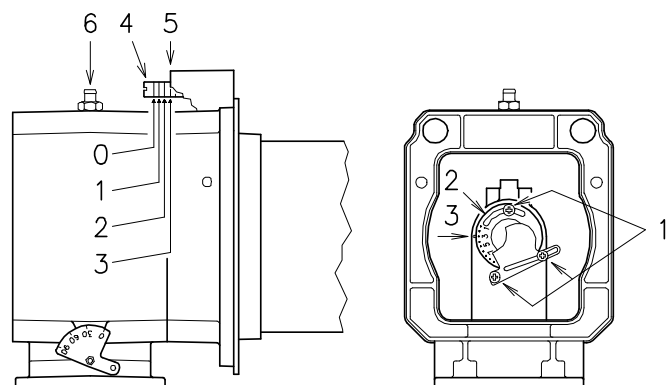

Fig. 15
- Turn the screw 4)(Fig. 15) until the notch found lines up with the front surface 5) of the flange.
To facilitate the adjustment, loosen the screw 6) (Fig. 15), adjust, then block.
- Loosen the screws 1)(Fig. 15) and rotate the ring nut 2) until the notch you have found corresponds with the indicator 3).
The diagram shows the ideal settings for the ring nut 2)(Fig. 15). If the pressure in the power supply network is very low and does not allow the pressure indicated on page 21 to be reached at MAX output, and if the ring nut 2)(Fig. 15) is only partially opened, it is possible to further open the ring nut by 1-2 notches.
Continuing on the example on page 22, we can see that a burner RS 100/M with a 900 kW output requires about 5.5 mbar of pressure in test point 6)(Fig. 15).
If this pressure is not available, open ring nut 2)(Fig. 15) to 4-5 notches.